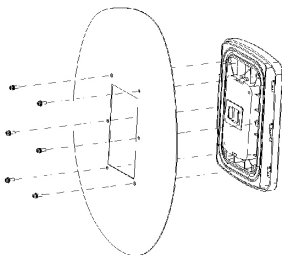

Figure 2. Mounting Option Assembly
4. Complete installation by attaching the mounting option to the end-user panel according to Figure 2.